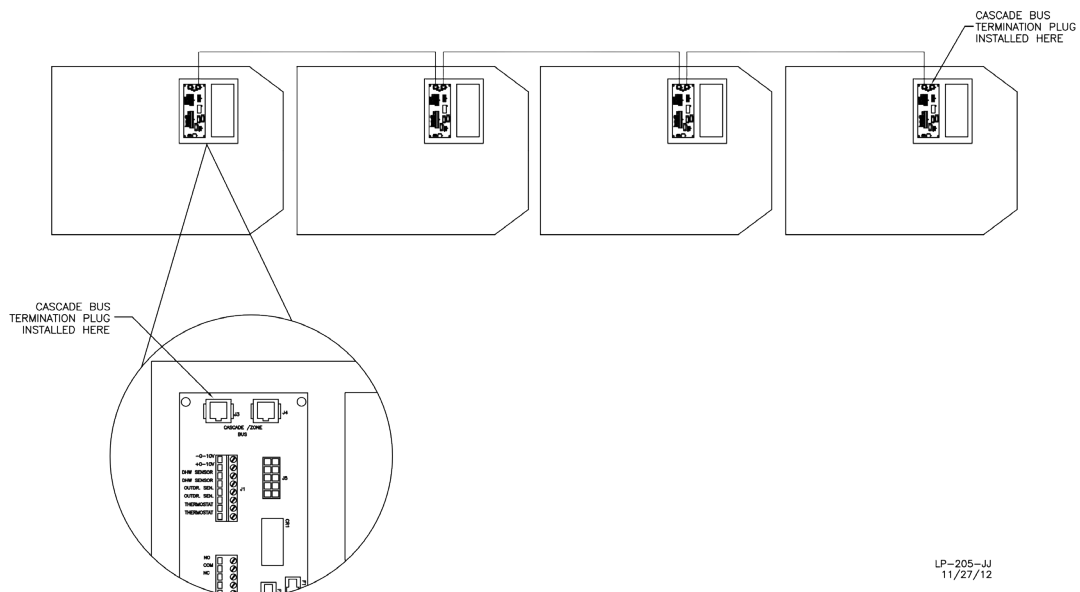

Figure 27 - Wiring Cascade System
1. A Cascade Bus Termination Plug has been installed on the customer connection board of this boiler. The purpose of this plug is to stabilize communication between multiple boilers and reduce electrical "noise". See Figures 27 and 28 for Cascade Bus Termination Plug installation detail.